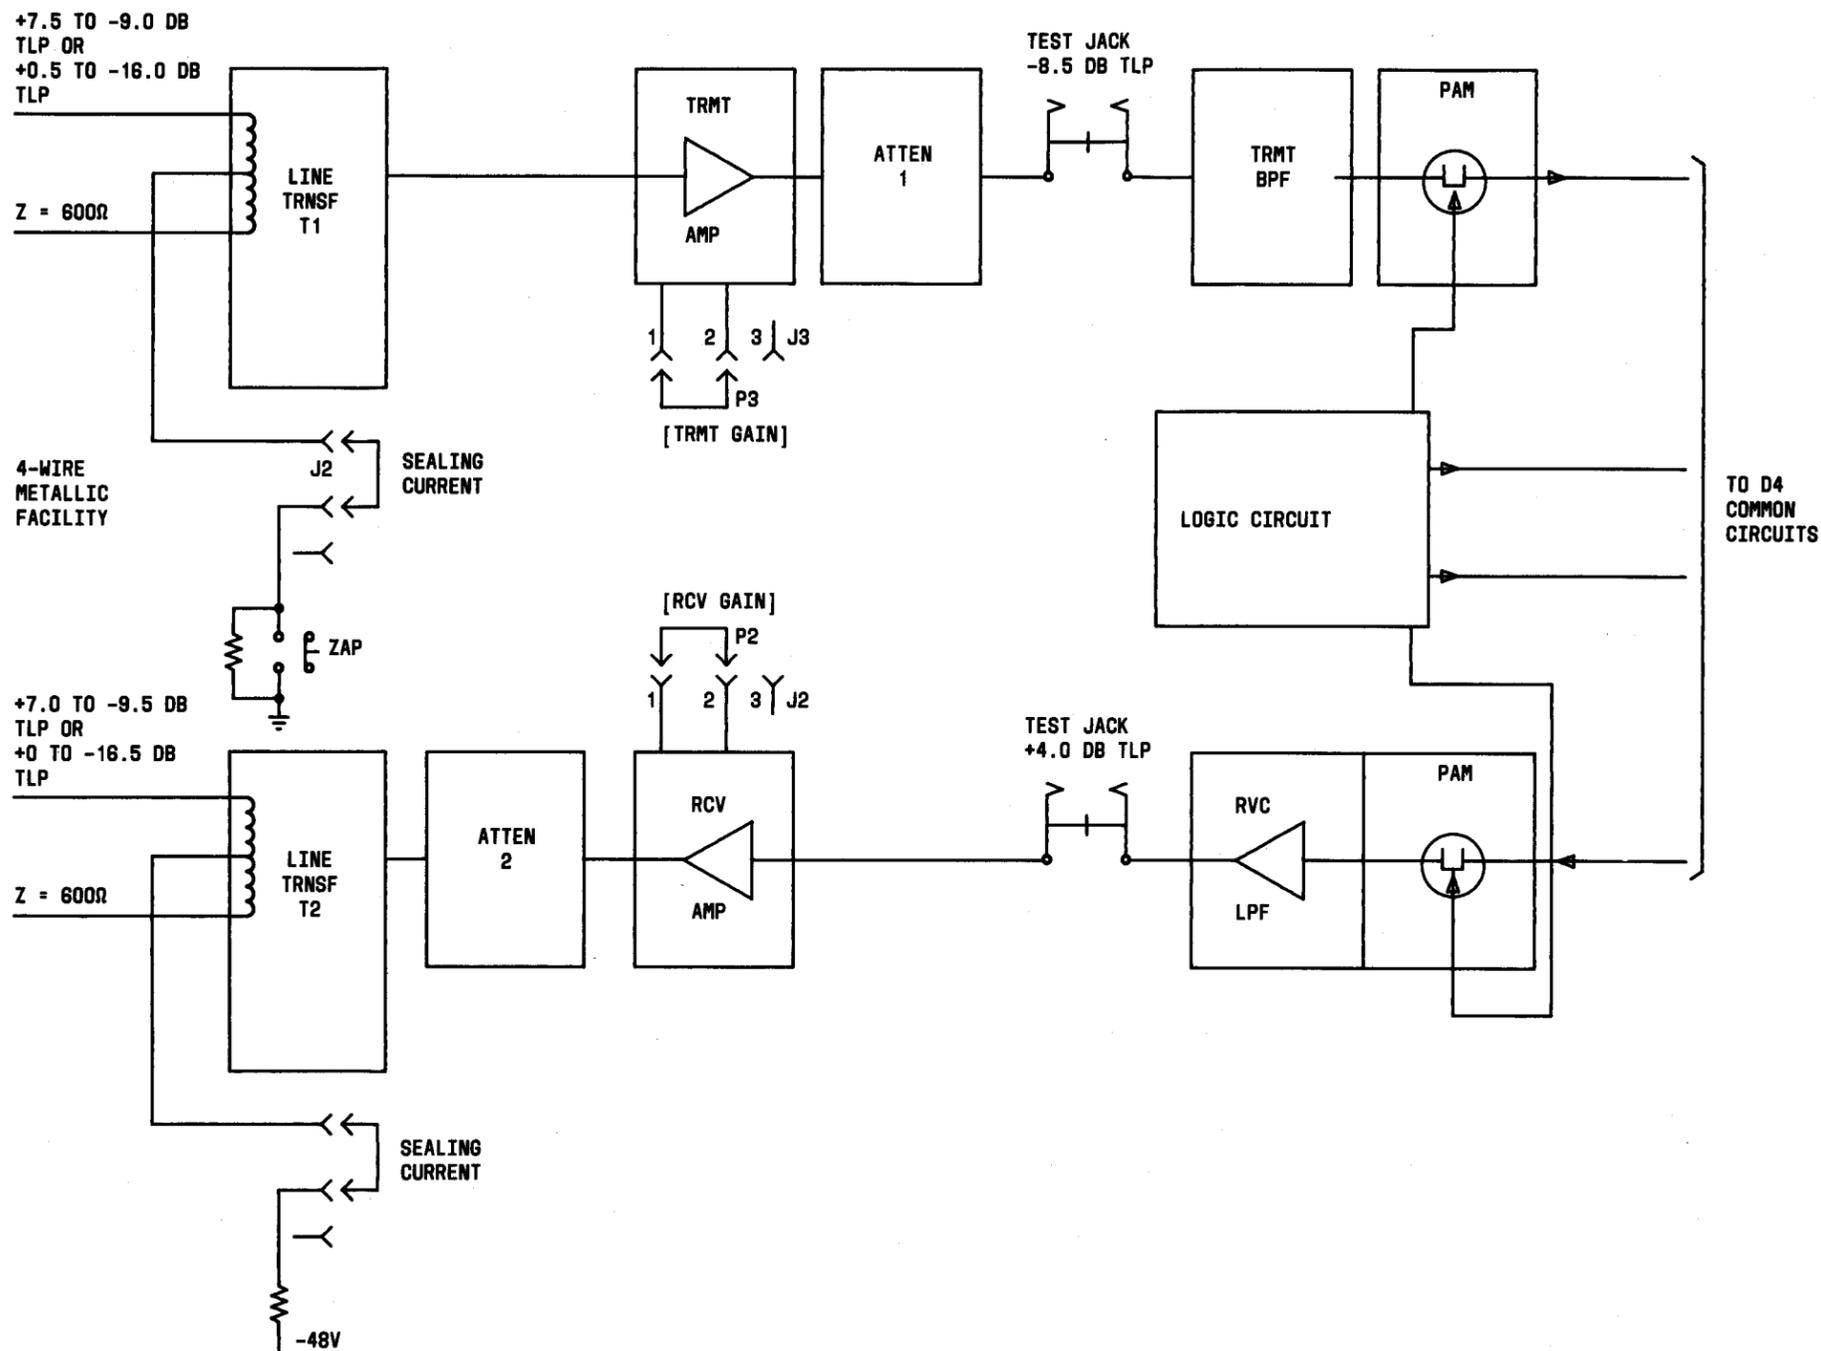

Fig. 5—4-Wire Equalized (4ETO) Transmission Paths
2.16 The 4ETO metallic interface is at the line side of transformers T1 and T2 (Fig. 5). The transformers provide impedance matching to loaded and short and long lengths of nonloaded cable. The 1200-ohm position is used when the channel unit connects to loaded cable. The 600-ohm position is used for average to short lengths of nonloaded cable and the 150-ohm position is used when connected to long lengths of nonloaded cable.